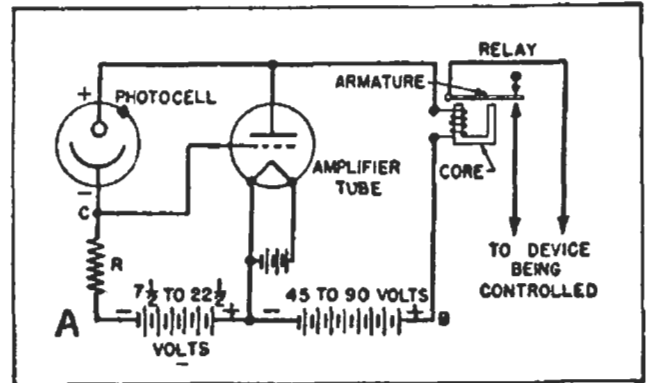

FIG. 5. A basic circuit which can be used with the photoemissive cell.
► Since the current passed by the cells is too small to operate even a super-sensitive relay, photoemissive cells are always used with one or more amplifier tubes. A typical circuit which can be used either with gas or vacuum type photocells is given in Fig. 5. The photocell is connected so that the voltages of the B and C batteries will be applied to it through R. (Its current will not operate the relay.) An ordinary radio tube such as the 1H4G (or any triode, provided the proper voltages are applied) serves as amplifier tube; the relay is a sensitive type, with its contacts connected into the power supply leads of the device being controlled.
selenium cell changes its resistance, thereby changing the bias voltage on the grid of the tube. In the circuit shown, increases in light make the grid of the tube less negative (more positive), because the cell resistance decreases, allowing a larger current and hence a larger voltage drop across R . This voltage is opposite in polarity to the bias, so it reduces the bias and allows the plate current to increase and operate the relay. With this circuit, therefore, the device being controlled by the relay operates whenever a strong light falls on the cell. (Notice—the response of this circuit to light falling on the cell is similar to that of the circuit in Fig. 5, in which a photoemissive cell is used.) If the positions of the selenium cell and the resistor R are reversed, the relay will be closed when the cell is dark but will open just as soon as sufficient light falls on the cell.